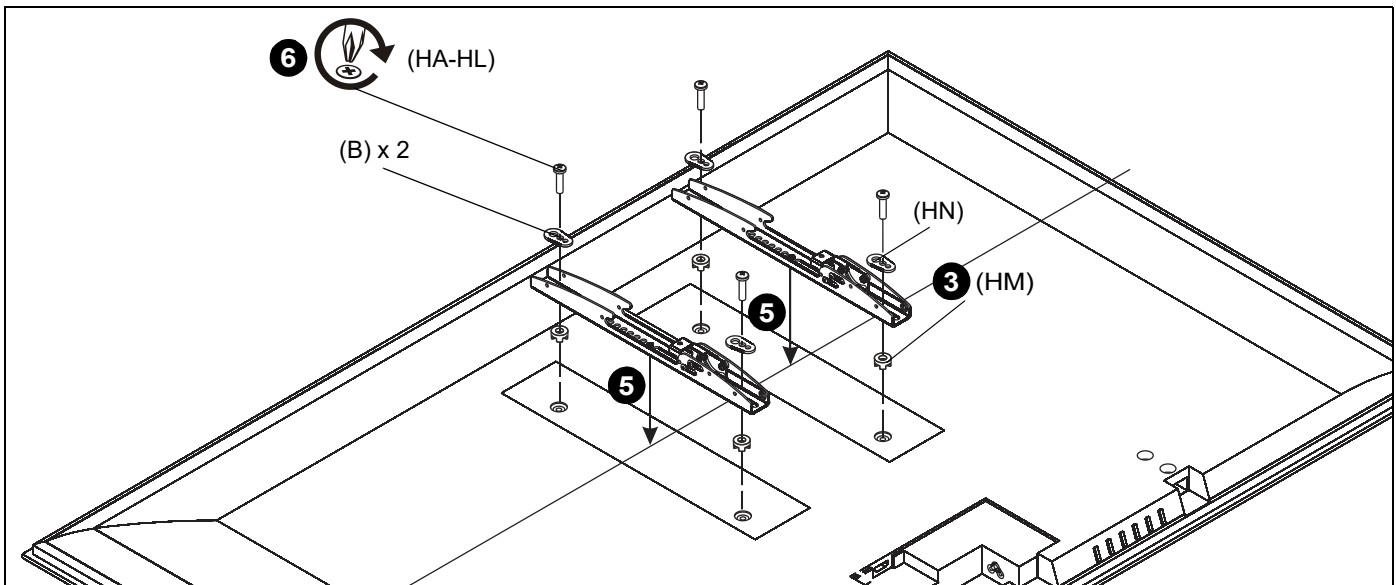

Figure 9
2. Select screw *diameter* by examining hardware (HA-HL) (4mm, 5mm, 6mm or 8mm) and comparing with mounting holes on display. (See Figure 9)
3. Select spacers: (See Figure 9)
- If mounting holes are not recessed and both uprights (B) can lay flat against display, then no spacers are required.
- If mounting holes are recessed, or if protrusions prevent uprights (B) from laying flat, then nesting spacers (HM) must be used.
4. Select screw *length*: (See Figure 9)
- Using your hand, insert **SHORTEST** length screw of selected diameter (HA, HD, HG or HJ) through universal washer (HN), uprights (B), selected spacer (HL or HM), into display mounting hole.
5. Place uprights (B) on display, ensuring: (See Figure 9)
- Center of uprights (B) are as close to the center of the back of display as possible after being installed. Center of bracket is indicated by the diamond-shaped hole.
6. Use selected screws and spacers to install two interface uprights (B) to back of display. (See Figure 9)